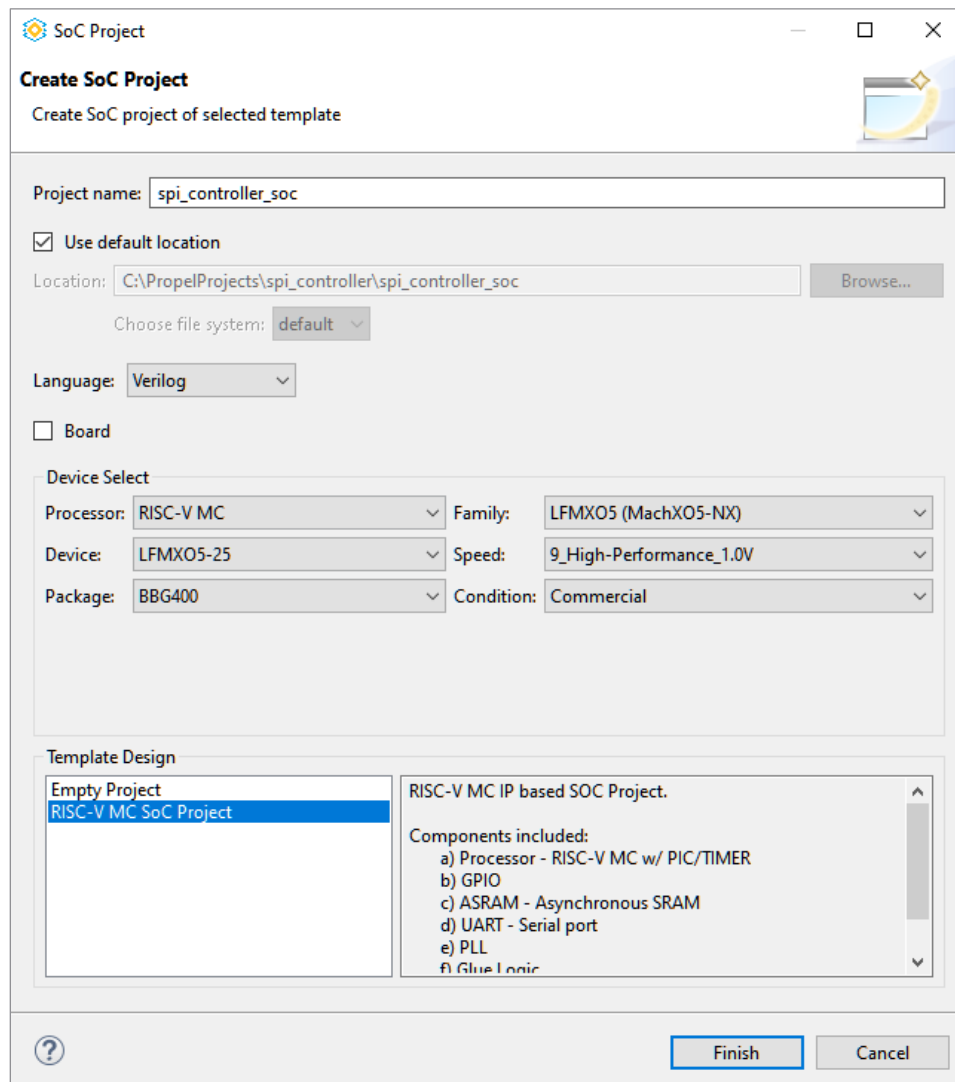

Figure 6.4. Create SoC Project
3. In the **Device Select** section, indicate the correct details of the device or board that you are using. In Figure 6.4, device is set to LFMXO5-25-9BBG400C because the MachXO5-NX Development Board is used in the hardware testing.